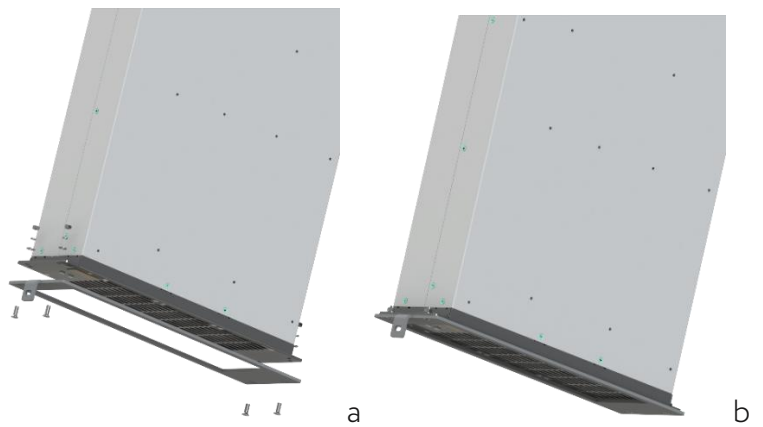

Figure 5.15. Charging module with bracket
7. Fasten the bracket to the module with the previously removed fasteners (fig. 5.15).